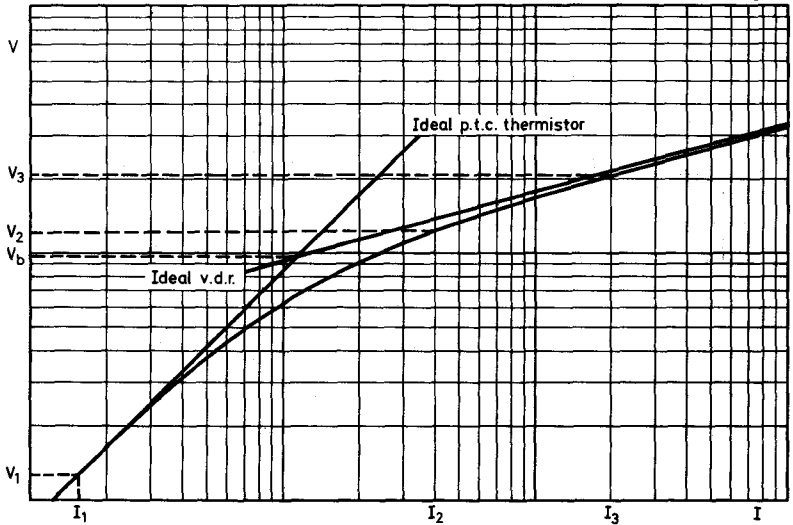

Fig. 10
P.T.C. thermistors exhibit a certain degree of voltage dependency at higher voltages. The equivalent circuit of a normal p.t.c. thermistor is an ideal p.t.c. thermistor having no voltage dependency, in parallel with an ideal voltage dependent resistor (v.d.r.) conforming to $V \propto I^\beta$. Figure 10 shows the voltage/current characteristic of a normal p.t.c. thermistor compared with these "ideal" components. These have been plotted on a log scale and the p.t.c. thermistor curves represent measurements made under pulse conditions.
Balance voltage (V_b). The voltage at the intersection of the ideal p. t. c. thermistor and the ideal v. d. r. characteristic curves (see figure 10) is the balance voltage at which point the current through both ideal components is equal. Where applicable, balance voltage is given in data at a specified ambient temperature.